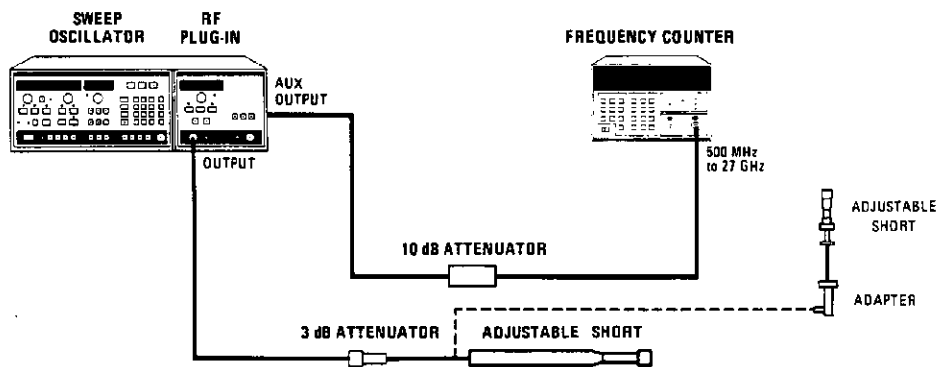

Figure 4-6. Frequency Change with 3:1 Load SWR Test Setup
8. Connect equipment as shown in Figure 4-6. Press the Model 8350A/B [INSTR PRESET], [CW] [1] [GHz], then [POWER LEVEL] [1] [0] [dBm].